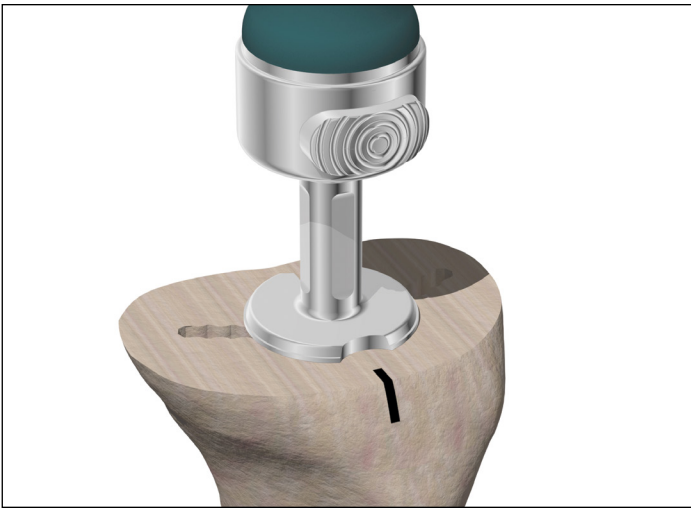

Figure 135
► **Note:** When inserting a Symmetric Cone Implant, ensure that the anterior rotational alignment marking on the implant is aligned with the anterior surface marking previously determined by the Universal Tibial Template (**Figure 135**).